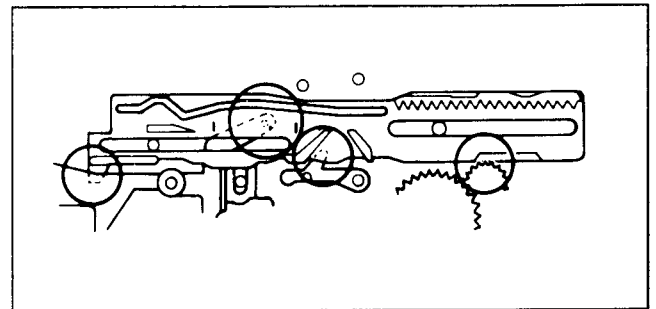

Fig. 7-42.
- 2) Push mode arm 22 in the direction of the arrow, and mount the M slider 16, noting the positioning of the other parts in Fig. 7-42, and fix the stopper washer 21.